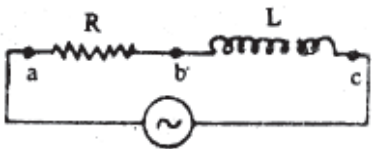

Fig. 24.5
- v) An AC voltmeter connected between a and b (Fig. 24.5) reads 30 volts and when connected between b and c reads 40 volts. How much will it read when connected between a and c ? Assume the inductor to be a pure inductor.